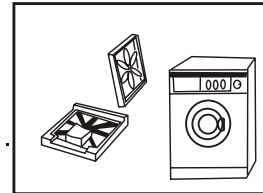

Fig. 1
- As shown in figure 1 (Fig. 1), remove all the packaging material before installing. Drops of water could be found on the packaging and/or door. This is a result from QC test run in the factory before shipment.